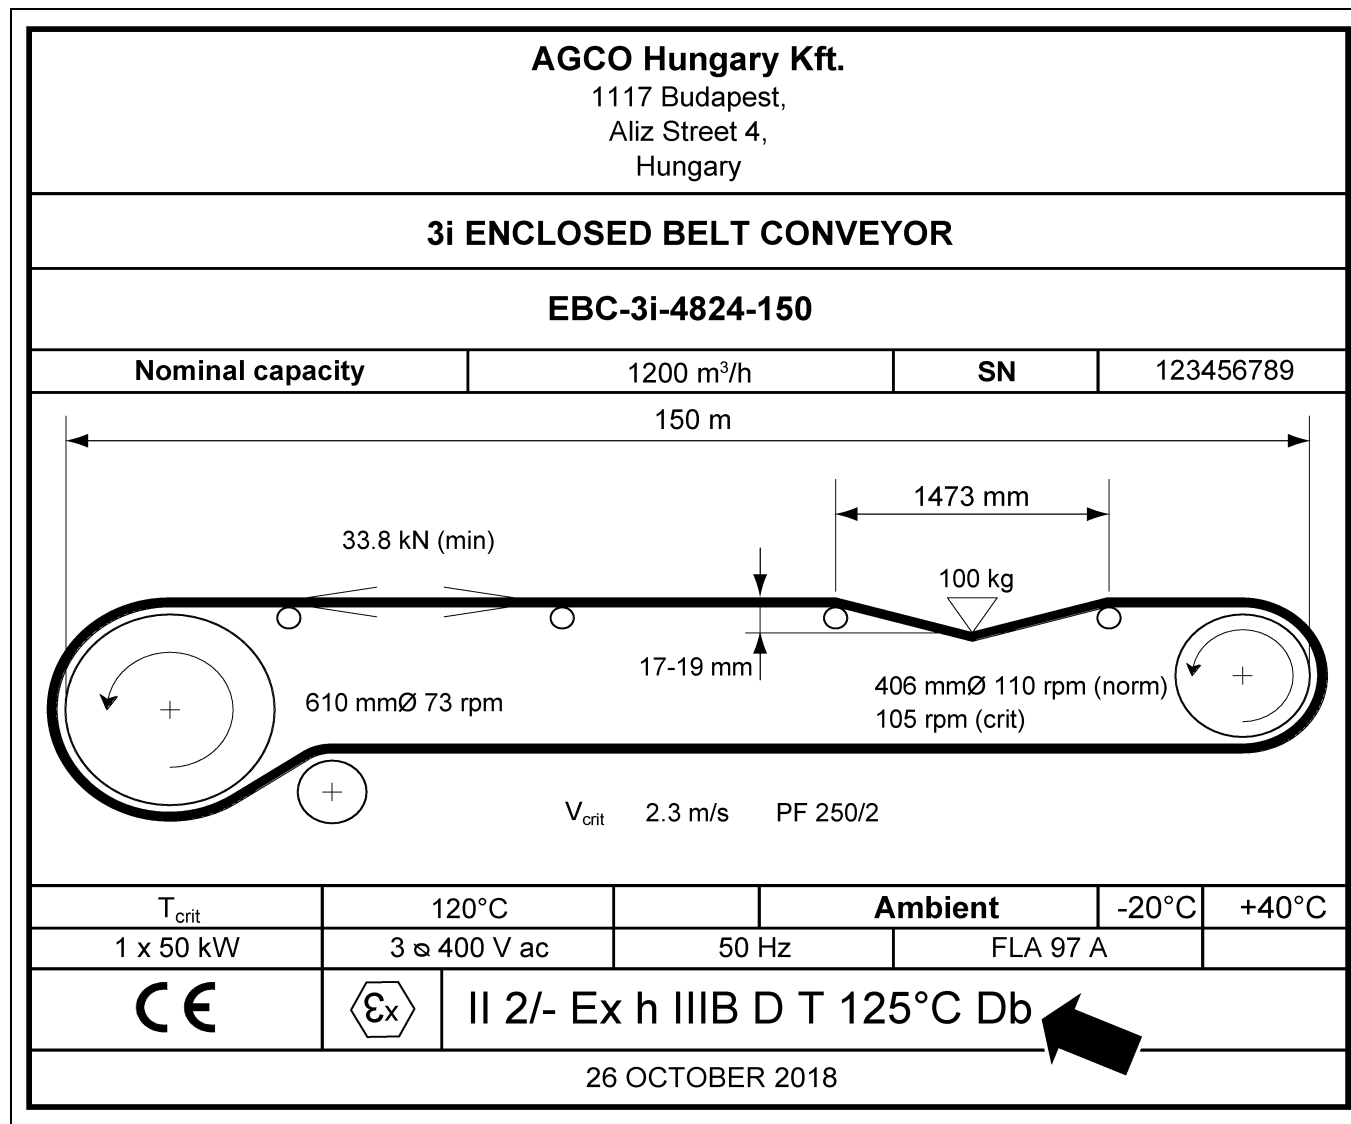

Figure 2A
(See Figure 2A on Page 14.)
4. It is vital that you check the designation of your conveyor is correct for the zone into which it is to be installed. If in doubt consult an ATEX Expert. You will find the rating for your conveyor on the rating plate attached to the conveyor. (See Figure 2A.)